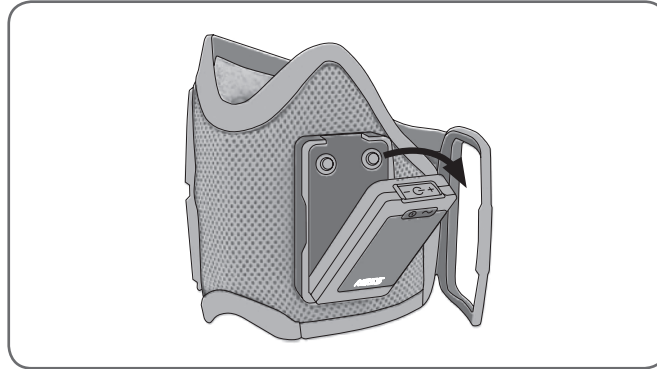

Figure 86: Removing the RF Stim Unit.
1. Remove the RF Stim Unit from the FS Cuff cradle. See Figure 86.